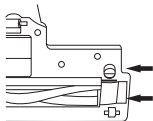

Abb. 7
- When using the electric brush (11) threads or long hair etc. can wind up around the rotating brush. Keep the electric brush (11) clean, disassemble the brush (11) and clean the round brush as it becomes dirty.
- Remove the electric brush (11) by pressing the lock (8).
- Turn the brush (11) over, press the lock and remove the round brush holder, take the round brush out, remove threads and hair wrapped around the brush (fig. 7).
- Clean the inner and outer surface of the electric brush (11) body from garbage and dust.